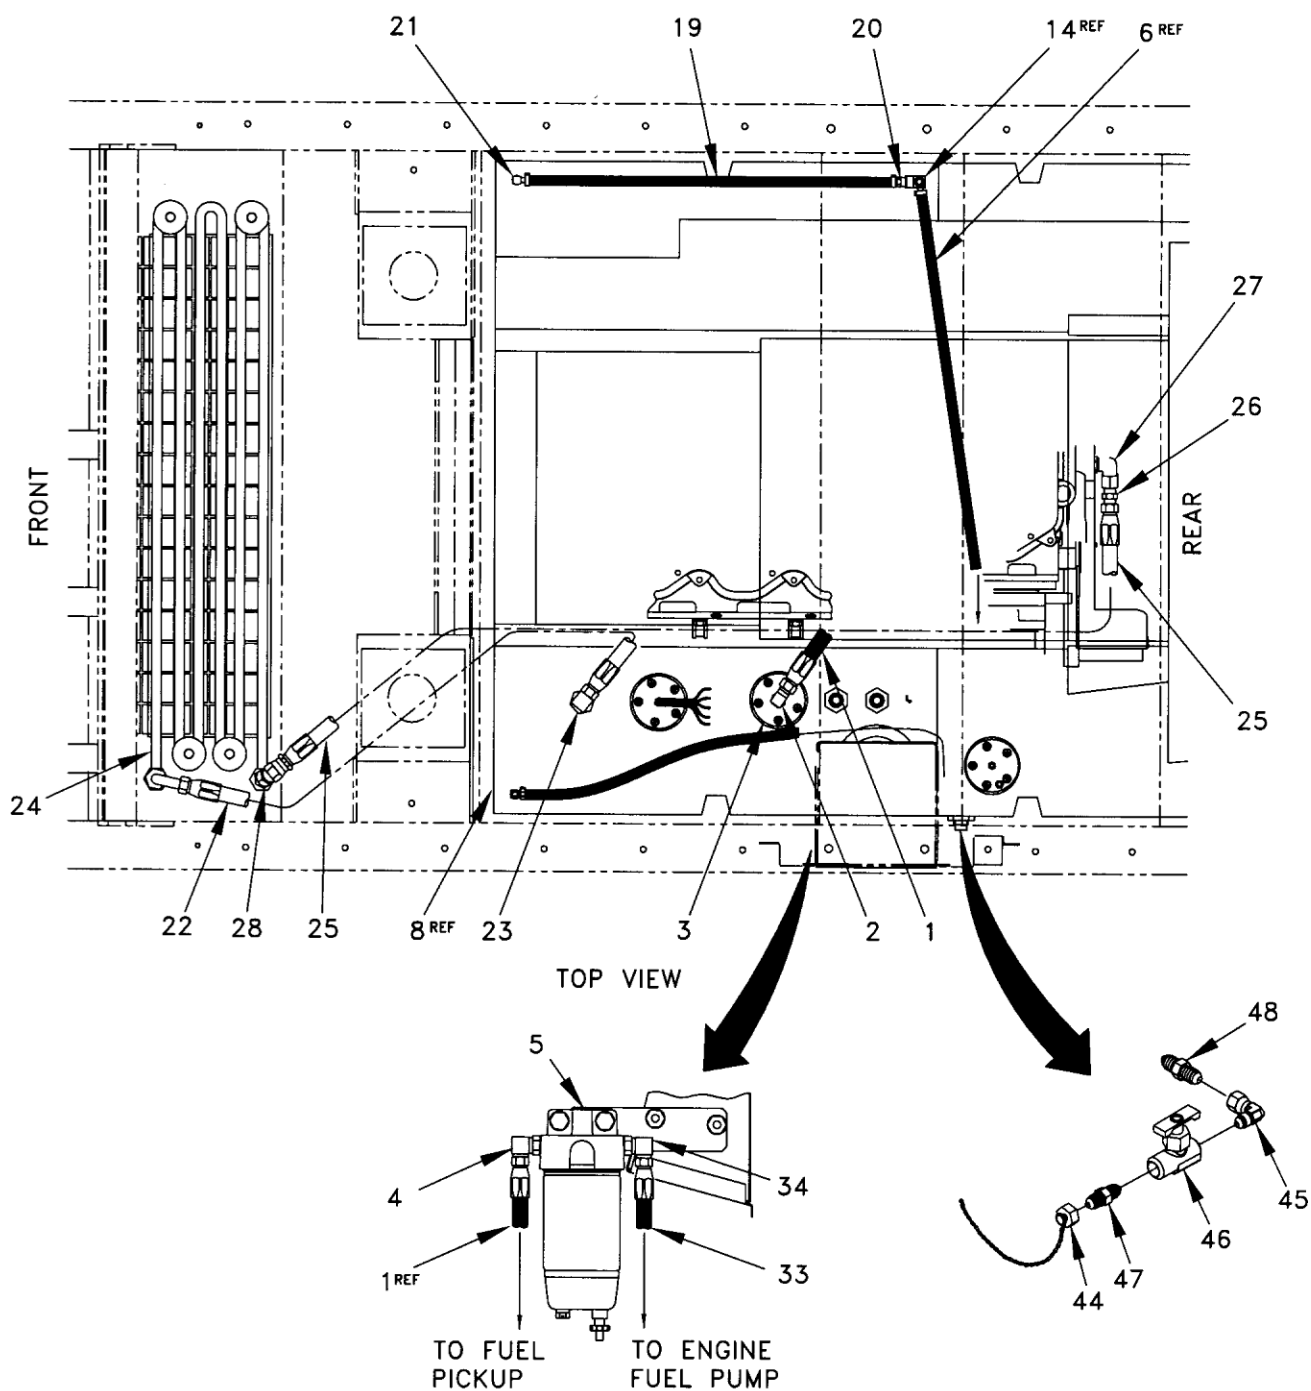

Figure 1. Fuel Hoses (Sheet 3 of 3).
15. If necessary, remove elbow (Figure 1, Sheet 3, Item 34), elbow (Figure 1, Sheet 1, Item 35), and adapter (Figure 1, Sheet 1, Item 36).